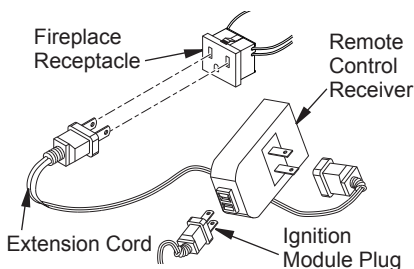

Figure 32 - Installing the WRC Remote Receiver
- c. Plug ignition module into receiver unit (see Figure 32).